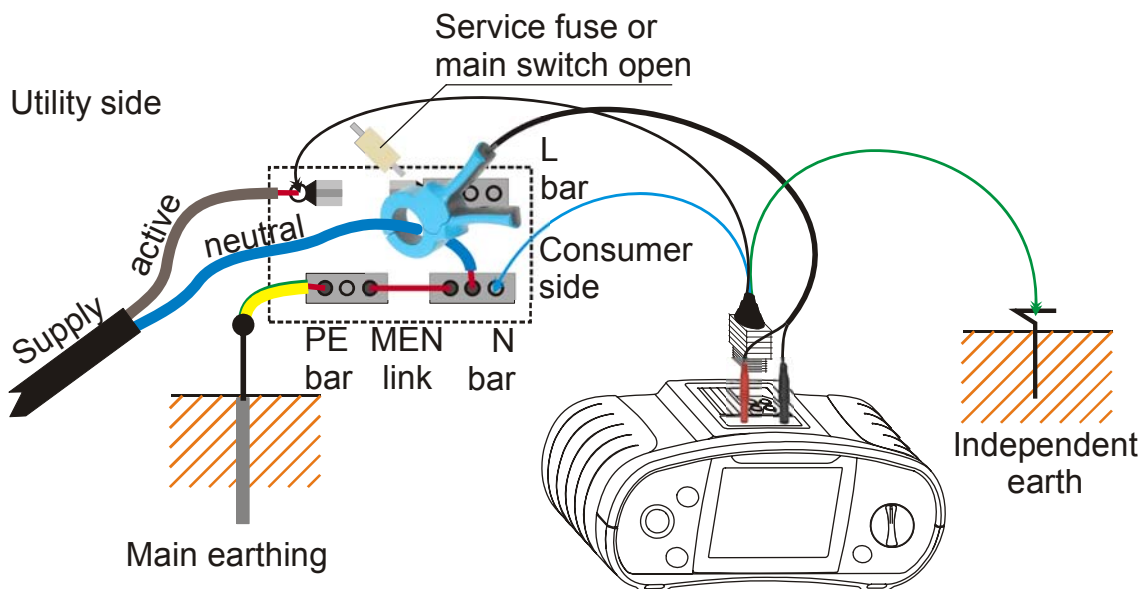

Figure 5.1: Recommended measuring circuit
- ❑ **Connect** test leads and clamp current transformer to the tested object (see figure 5.1).